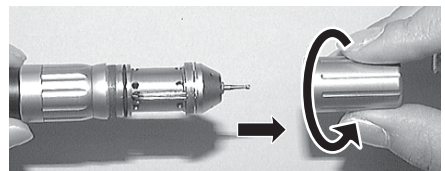

Fig. 15
- 1) Loosen the cartridge retainer by turning it, in the direction shown in Fig.15.